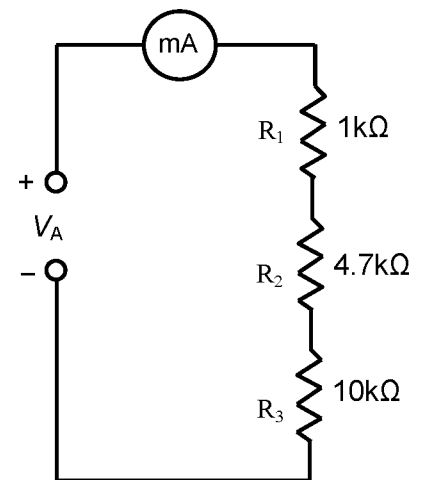

Figure 13-1
1. Connect the initial circuit as shown in Figure 13-1.